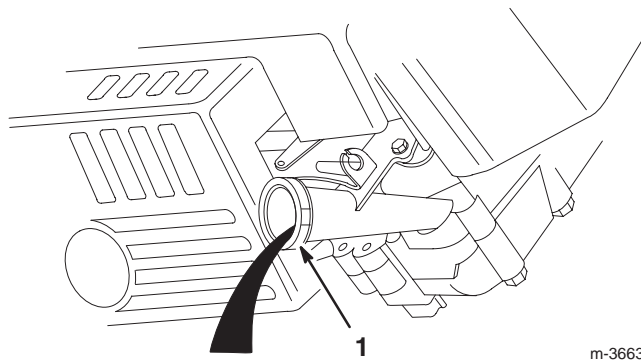

Figure 16
4. Tip the lawn mower onto its **left** side, allowing the oil to drain into the drain pan (Fig. 16).